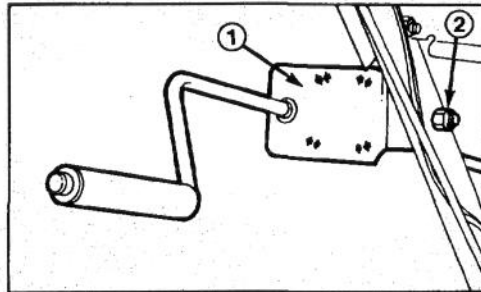
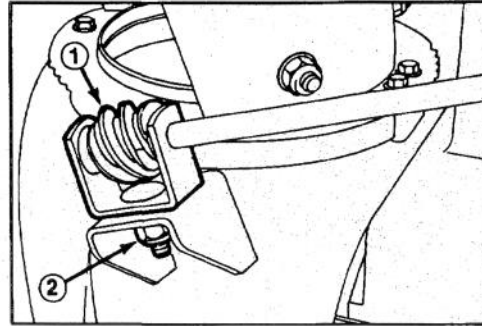

Figure 9
Figure 10
1. Assemble chute control bracket and rod to left side of handle with cap screw and locknut. Leave locknut loose until assembly is completely mounted (Fig. 9).
2. Apply No. 2 general purpose grease to worm gear. Mount worm gear and bracket to mounting flange and secure with pyramidal washer and locknut (Fig. 10).
3. Push worm firmly against teeth in chute retaining ring and tighten locknut (Fig. 10). Then, tighten locknut to secure chute control bracket against left handle (Fig. 9).